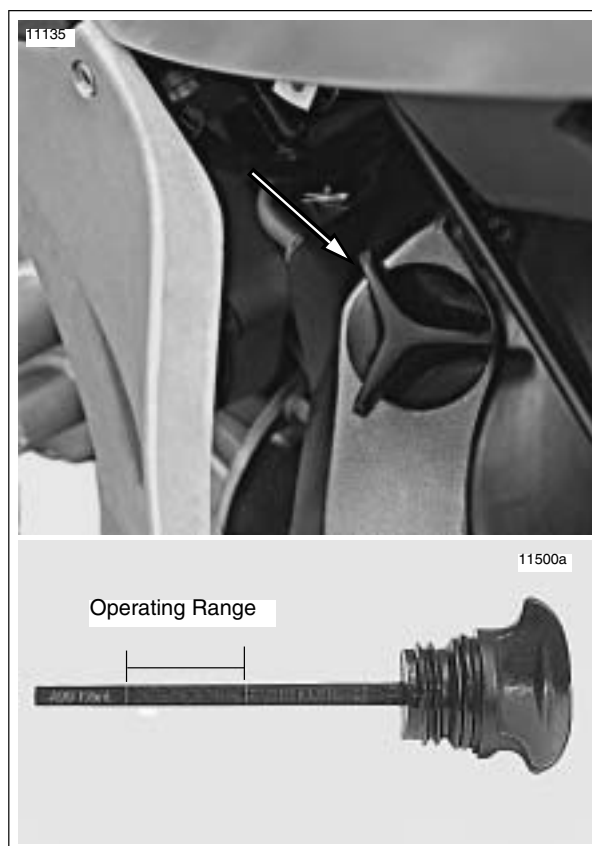

Figure 1-4. Dipstick Location/Engine Oil Level
2. See Figure 1-4. Unscrew and remove dipstick from oil tank/swingarm filler hole. Wipe dipstick clean.
4. See Figure 1-4. Unscrew and remove dipstick and read oil level.